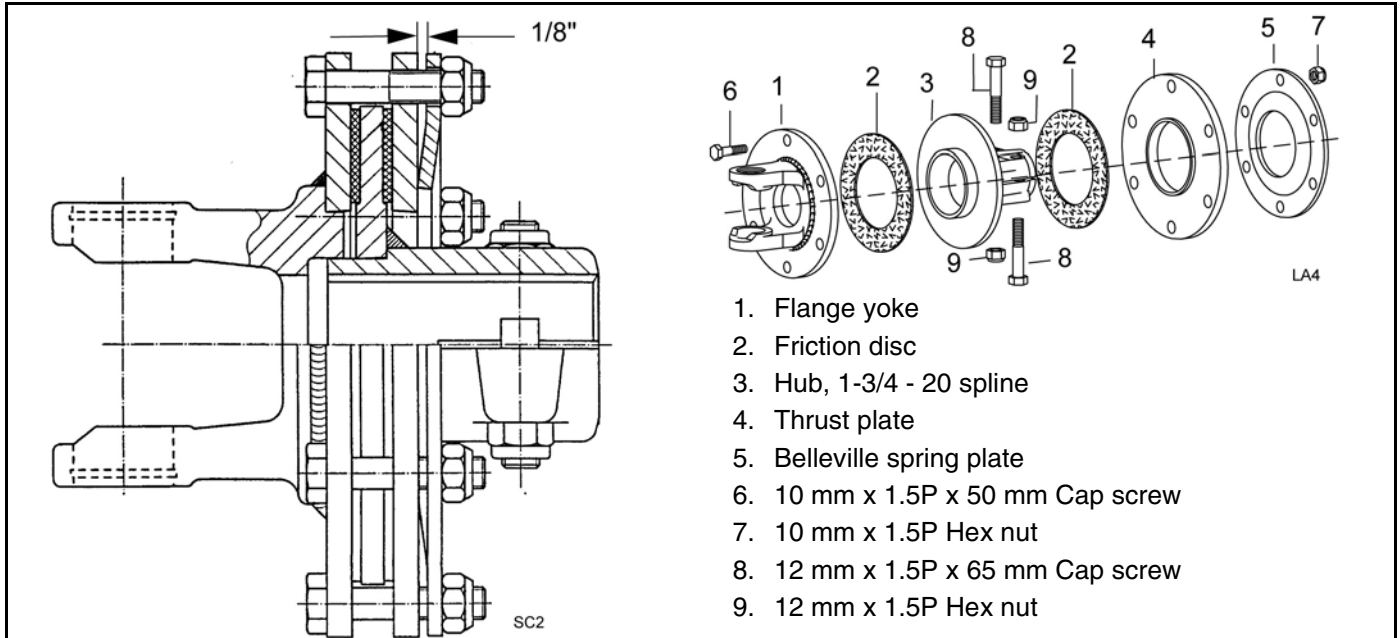

Figure 14. BB600X, BB720X, BB840X & BB840XP S/N 1127329 & Above Slip Clutch Assembly
Mounted Cutters & BB840XP S/N 1127329 & Above (Figure 14)
3. Loosen six 10 mm cap screws (6) to remove all tension from Belleville spring plate (5).
4. Hold clutch hub (3) solid and turn shaft to make sure clutch slips.
5. If clutch does not slip freely, disassemble and clean the thrust plate faces (4), flange yoke (1), and clutch hub (3).
7. Tighten Belleville spring (5) until it is against the thrust plate (4) of the clutch, and then back off each of the six nuts by 2 full revolutions. The gap between Belleville spring and thrust plate should be 1/8" as shown in Figure 14.
8. If a clutch continues to slip when the spring is compressed to 1/8" cap, check friction discs (2) for excessive wear. Discs are 1/8" when new. Replace discs after 1/16" wear. Minimum disc thickness is 1/16"